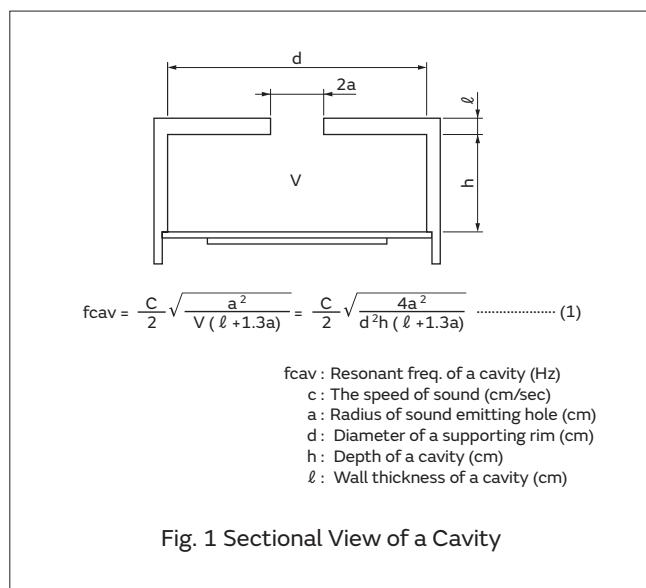

Fig. 1 Sectional View of a Cavity
In general, the piezoelectric diaphragm is installed in a cavity to produce high sound pressure (Fig 1).
The resonant frequency ( $f_{cav}$ ) of the cavity in Fig. 1 is obtained from Formula (1) (Helmholtz's Formula).